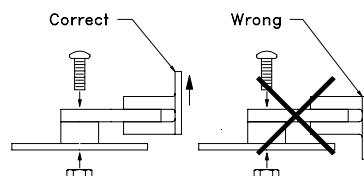

Figure 7 - Assemble Arm to Side Mount
5. Using a #8 machine screw and a #8 machine nut, loosely assemble the other end of the suspension arm to a side mount. Make sure that the "foot" of the window mount is pointed away from the side mount, as shown in Figure 7. Repeat for the second arm and side mount.